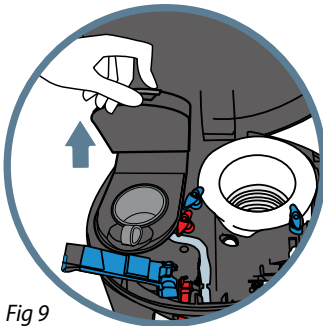

Fig 9
10. Turn the red twist locks on each side to release the front K-Cup® cafe assembly. (Fig. 9).